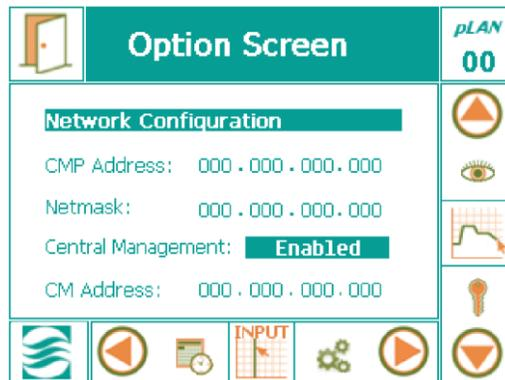

Figure 7-9 Network Configuration
1. From the status screen, tap the ID button  to access the network configuration (Figure 7-9).